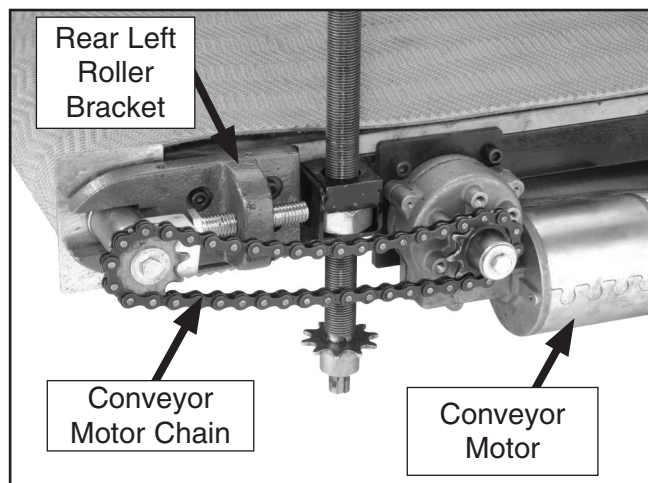

Figure 49. Rear left roller bracket loosened.
19. Loosen the rear left (**Figure 49**) roller bracket (2 cap screws) enough so the conveyor motor chain is slack.
21. Remove the conveyor motor (2 cap screws) and the rear roller bracket (2 cap screws) shown in **Figure 49**.